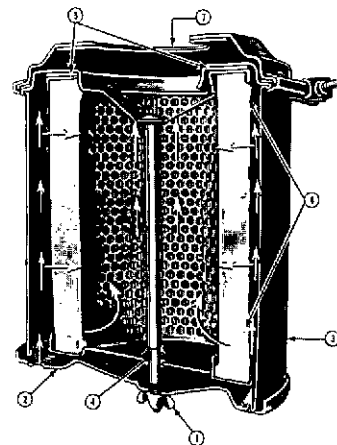

Fig. 5-6, N11003. Air cleaner - dry type
The paper element in a dry-type air cleaner, Fig. 5-6, may be cleaned several times by using an air jet to blow off dirt by washing with non-sudsing household detergent and warm water, preferably 120 to 140 deg. F [48.9 to 60.0 deg. C], then drying with compressed air, approximately 40 psi [2.8124 kg/sq cm]. Do not hold air jet too close to paper element or damage to element may result.
1. Loosen wing nut (1, Fig. 5-6) securing bottom cover (2) to cleaner housing (3). Remove cover.
2. Pull element (6) down from center bolt (4).
3. Remove gasket (5) if damaged from housing.
4. Insert new or cleaned element (6) over center bolt (4) seating squarely on gasket (5), be sure grommet over center bolt is in position.